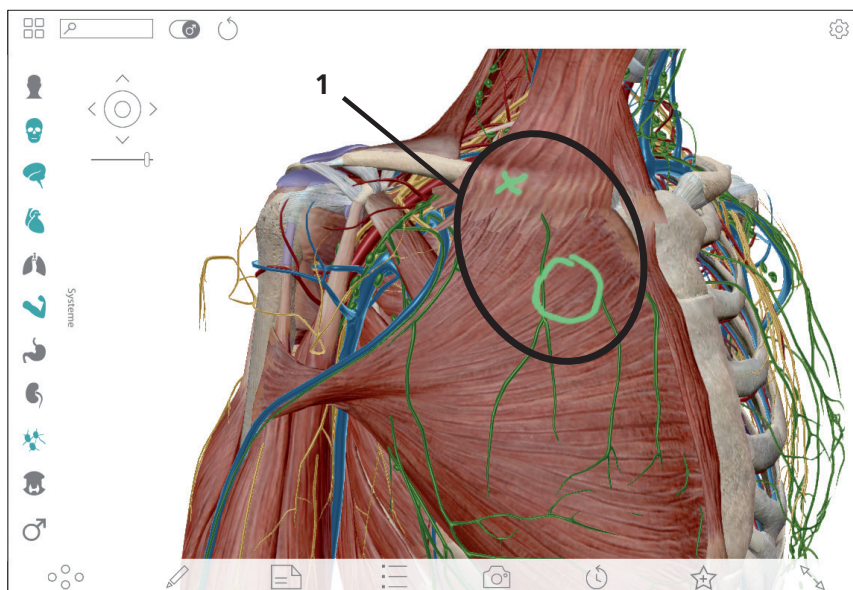

Fig. 4-39 Visible Body - with marked region
- Now draw your markings of the region on the control panel (see Fig. 4-39/1).